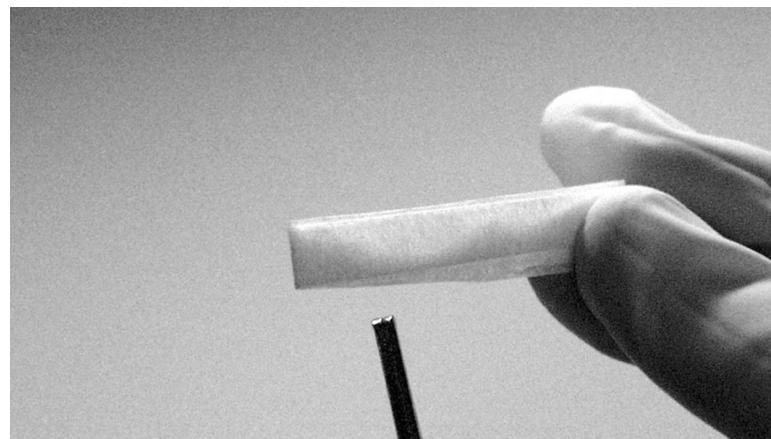

Figure 6-14. Folded Lens Tissue (Lengthwise)
2. Use a hemostat to fold the tissue in half, lengthwise. Do not touch any part of the lens tissue that will be used to clean the fiber optic surface. See Figure 6-14.